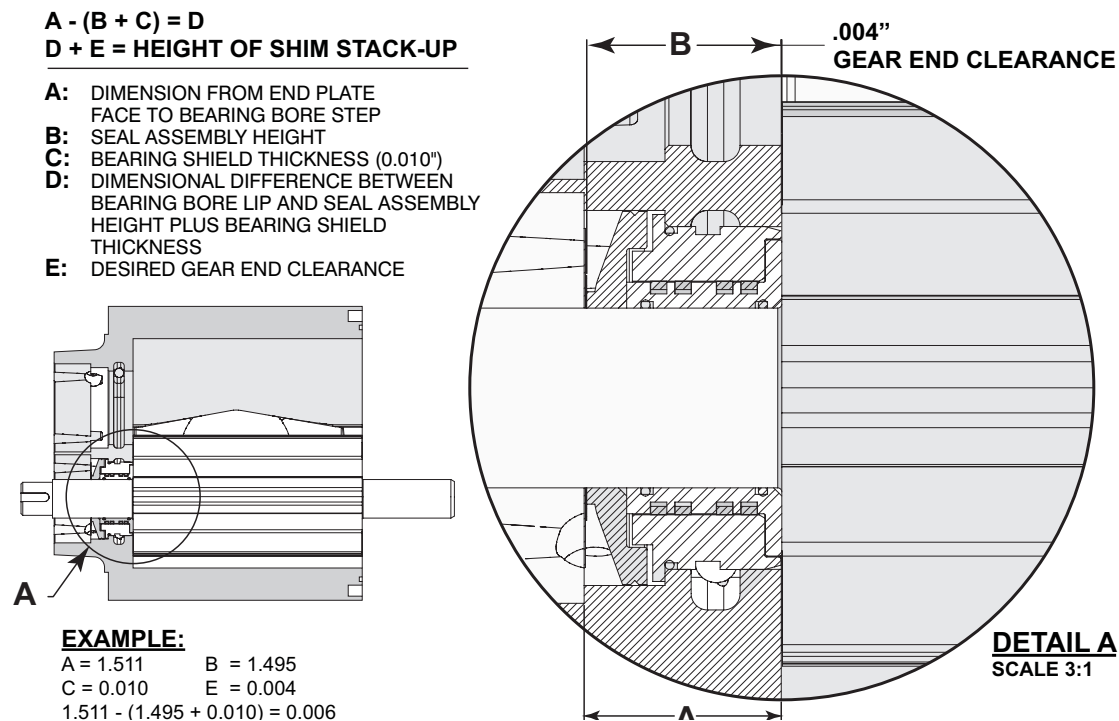

Figure 6-5 – Bearing Bore Stack-Up and Seal Measurement
2. **See Figure 6-5** regarding bearing bore stack up and seal measurement.
2. **See Figure 6-5** regarding bearing bore stack-up and seal measurement.